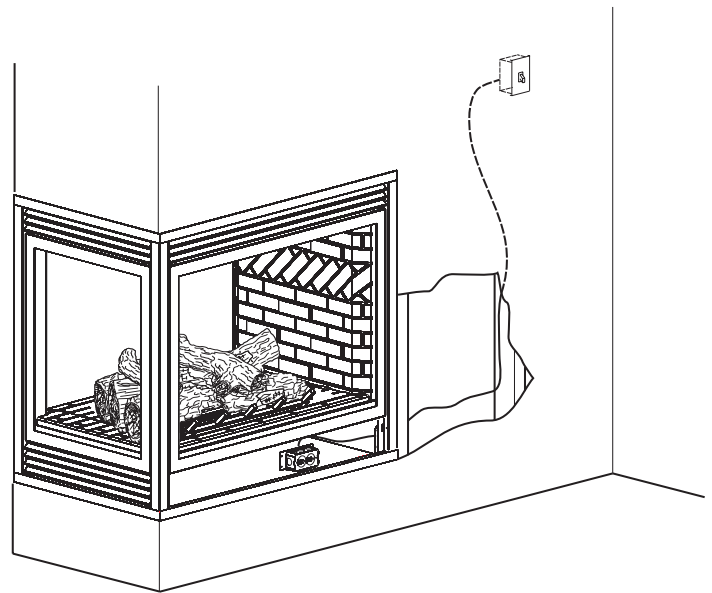

Figure 70
Note: Junction box is to be located in the lower compartment of the fireplace and must be pre-wired at time of fireplace installation for use with blower assembly. A standard ON/OFF wall switch or SCV-1 variable speed control kit should be installed to activate power to the Junction Box and provide power for the operation of the blower assembly. It is recommended that installation of the wiring be performed by a qualified electrician. **See Figure 70.**
8. To complete the installation, plug the power cord into the junction box receptacle previously installed in the bottom of the fireplace. **See Figures 70 and 71.**